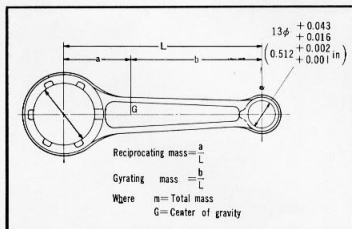

Figure 3-75. Connecting rod
- (7) Connecting rod small end I. D. (Fig. 3-75)